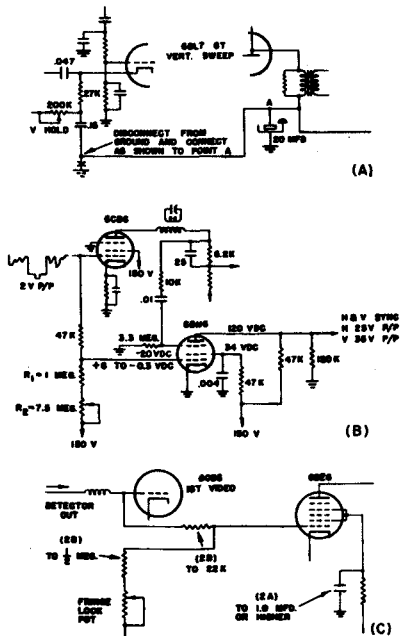

Fig. 42 — Zenith
**Sync Improvement in fringe areas (see Fig. 42).**